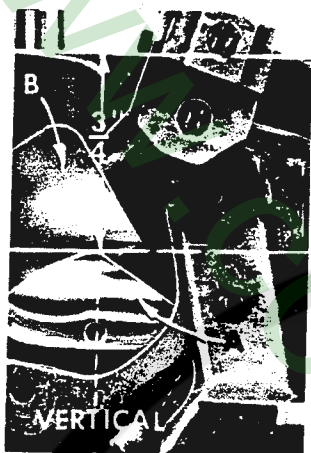

Fig. 18
Set 401 looper thread take-up cam eyelet so rear eyelet hole is directly under looper thread cast-off corner of cam (A, Fig. 18) when cam is at its most rearward position. Front and rear eyelet holes to be set horizontally. Looper thread eyelet (A, Fig. 19) to be set vertically and approximately centered in its slot.
When the 401 looper thread cam is correctly positioned on the needle arm shaft, the cast-off corner (A, Fig. 18) will be $\frac{3}{4}$ inch vertically below the top surface of the bed, when the needle arm is at its highest position (Fig. 18). This adjustment is made at the factory, but if checked and moved, it must be observed that the cam functions as a thrust collar for the needle arm shaft and correct thrust must be maintained. If this setting is correct, the casting-off may be timed. To change the time of casting-off, move the cast-off blade (B) up or down, rotating it about its holding screw. Set cast-off blade to cast-off looper thread when the needle point is between the bottom and top of the looper.
Observe the action of the looper thread take-up at the bottom of the needle stroke. The looper thread is lying across the cam lobes, slack from the previous casting-off. As the needle arm rises to the top, the looper thread will begin to tighten across the cam until cast-off will again occur and the looper thread will lie in the crotch of the cast-off blade (B, Fig. 18).